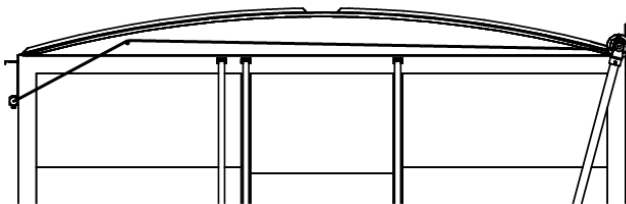

Figure 24
(See Figure 24 & 25)
**Note:** The rear hood bolt (G) prevents the cable from coming into contact with any obstructions when the tarp is open.
**Procedure:** Drill a 1/4" hole through the rear hood at approximately 18" from the edge of the rear hood and centered according to the height of the hood (see Figure 24). Fasten the 1/4"x4" hex bolt to the rear hood; making sure that the bolt protrudes out far enough for the cable to rest on it properly when the tarp is in the open position.